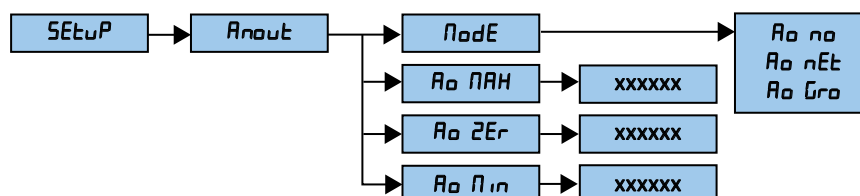

Figure 4-7. Analog Output Menu
1. Enter setup mode and go to the *AN OUT* menu (see Figure 4-7 on page 37).